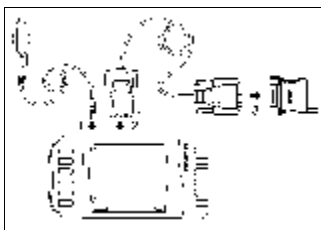

Fig.2.1
1. Connect the adaptor and **Star** auto scanner main unit with main test cable (i.e. steps 2 & 3 on Fig.2.1);
3. Connect the power adaptor if necessary (i.e. step 1 on Fig 2.1)